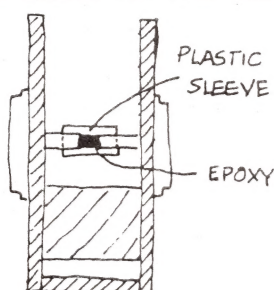

FIG. 6
Step 8 - cut a piece of the plastic tube about 8 mm long for each wheel set. The length of the tube determines how much side play the wheels will have in the new frames. Butter the cut ends of the axles with epoxy cement, and insert in the plastic tube, in the jig, as in Figure 6. Allow each one 24 hours to set. Remove from the jig, clean off any excess cement from the exposed parts of the axles. Check again that the wheels run true and do not wobble.